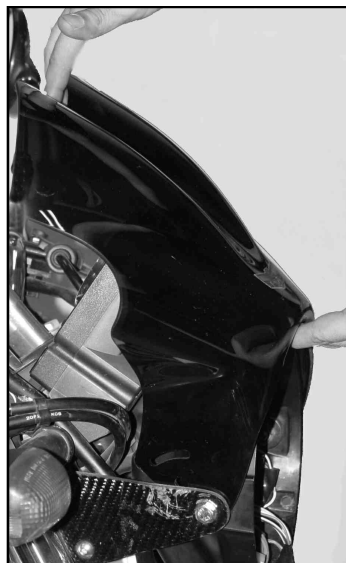

Figure 5
7. Adjust the angle of the windshield. **Figure 5.**
8. **Loosely install the clamps.** From the inside, insert a carriage screw (item 4) through the curved upper slot in the windshield and into the clamp. Loosely secure with a flat washer and ¼-20 nut outside the clamp.